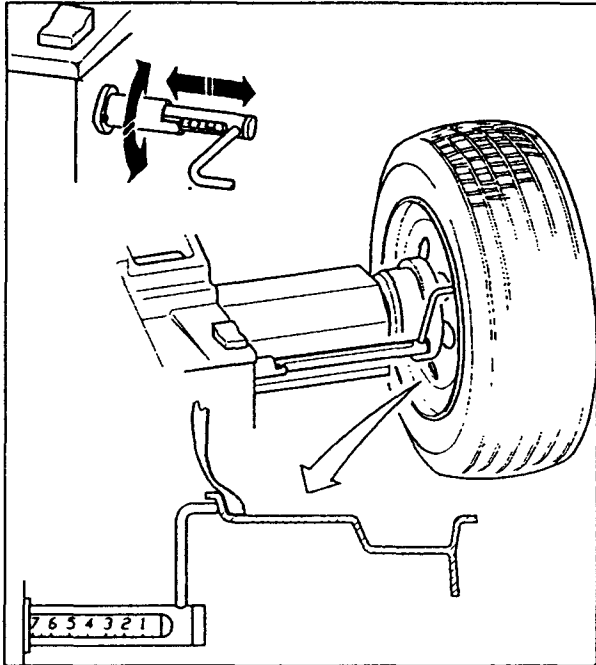

Fig.28
A. Measure the rim offset with gauge (Fig. 28).